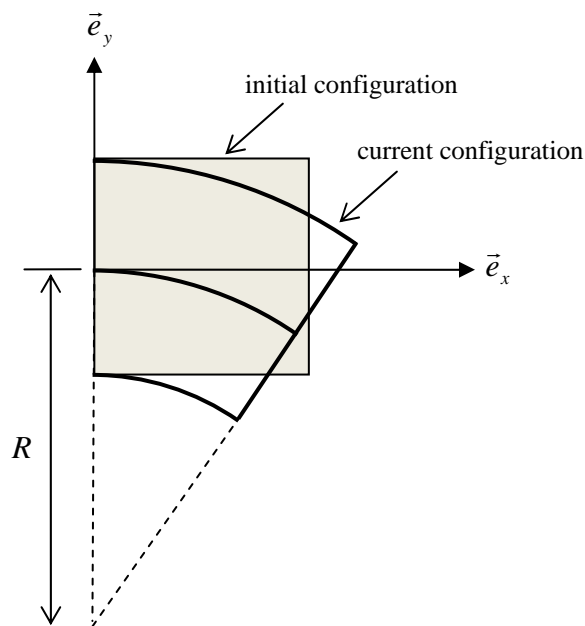

Figure. 1. A body under pure bending deformation
1. (10 pt.) We study the 2D bending deformation of a body as shown in Fig. 1. The current position  $(x, y, z)$  is a function of the initial position  $(X, Y, Z)$